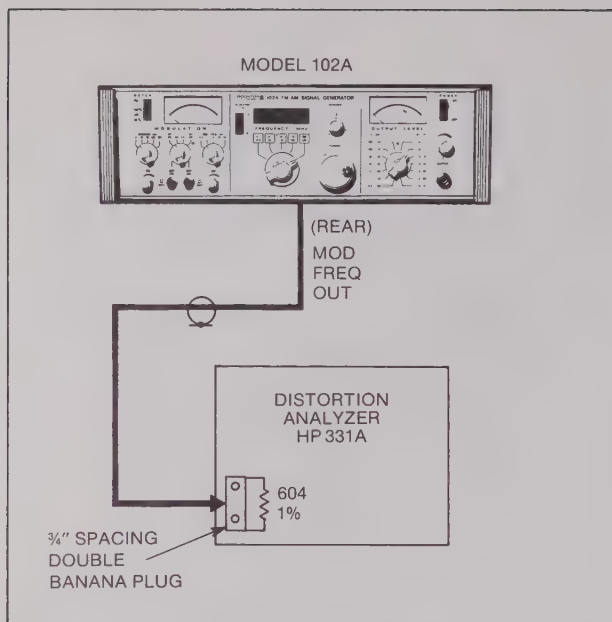

Figure 2-19 Modulation Oscillator
a. Connect the Model 102A and test equipment as shown in Figure 2-19.